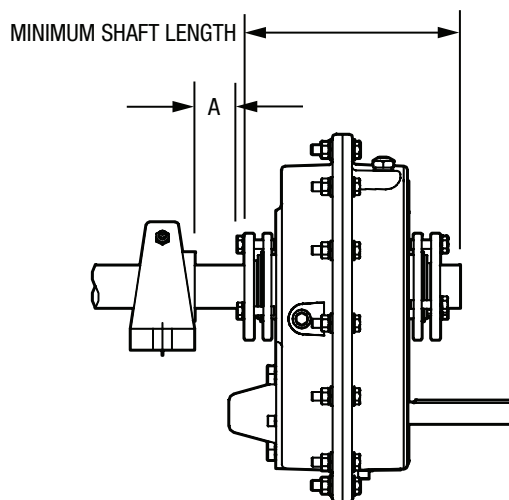

Figure 1 - Minimum Recommended Dimensions
- One bushing assembly is required to mount the reducer on the driven shaft. An assembly consists of two tapered bushings, bushing screws and washers, two bushing backup plates and retaining rings, and necessary shaft key or keys. The driven shaft must extend through the full length of the reducer. If the driven shaft does not extend through the reducer do not use the standard tapered bushings; instead use the short shaft bushings as described in the Short Shaft Bushings section that follows. The minimum shaft length, as measured from the end of the shaft to the outer edge of the bushing flange (see Figure 1), is given in Table 1 and shown in Figure 1.
1. One bushing assembly is required to mount the reducer on the driven shaft. An assembly consists of one long tapered bushing, one short tapered bushing, one tapered bushing wedge, bushing screws and washers, two bushing backup plates and retaining rings, and necessary shaft key or keys. The driven shaft does not need to extend through the reducer for the short shaft bushing to operate properly. The minimum shaft length, as measured from the end of the shaft to the outer edge of the bushing flange (see Figure 1), is given in Table 1.